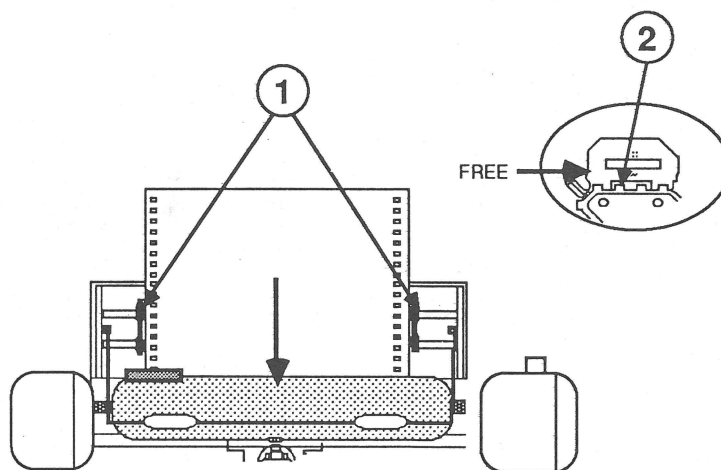

FIGURE 2
4. Lift up the clamps on both forms tractors (Figure 2, #1).
5. Make sure that the left forms tractor is positioned all the way to the left. (To move the forms tractor, pull the tractor release lever [Figure 2, #2] forward.) Lock the forms tractor in place by pushing back the tractor-release lever.